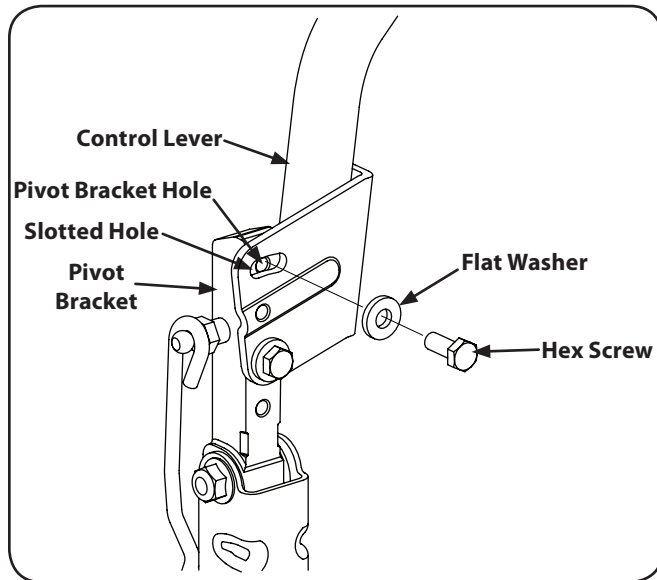

Figure 3-4
2. Lift and swing that control lever upward until the slotted hole in the lever bracket aligns with one of the holes in the pivot bracket. See Figure 3-4.
3. Slide the flat washer onto the hex screw. From the outside, insert the hex screw with washer through the control lever slot and the hole of the pivot bracket. See Figure 3-4.